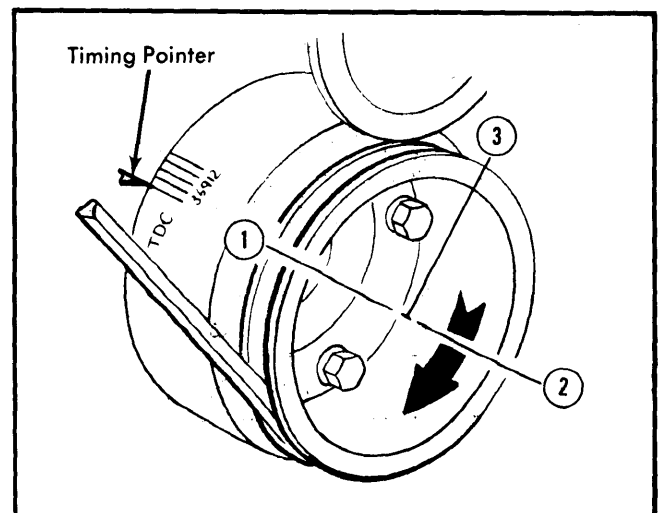

Fig. 7 Crankshaft Positions for Adjusting Hydraulic Valve Lifters
3) Rotate crankshaft until No. 1 piston is at TDC (point 1, see Fig. 7) after compression stroke as indicated by timing mark on crankshaft damper and pointer. Make chalk mark on damper 180° (point 2) from TDC mark. Make a chalk mark 90° (point 3) clockwise from TDC mark.